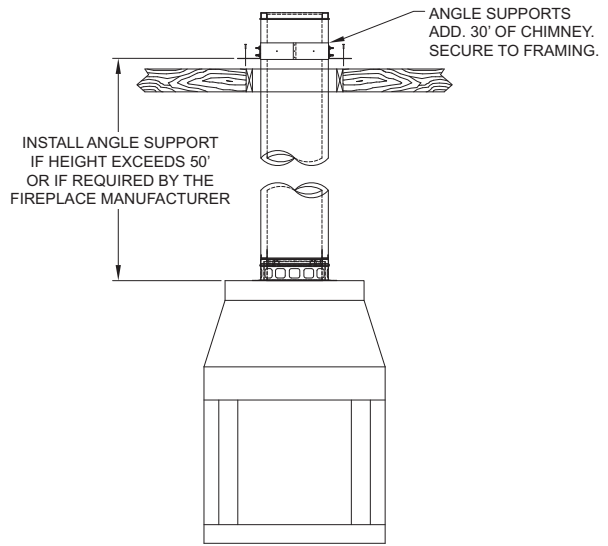
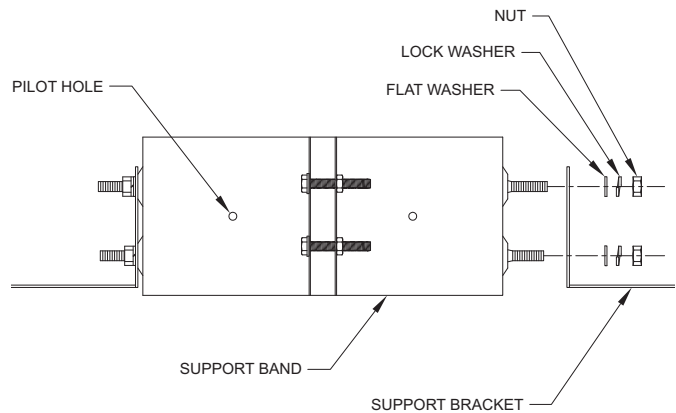

FIG. 5
FIG. 6
Angle Support and Support Band: Install an Angle Support if total chimney height is greater than 50 feet, or if the fireplace manufacturer requires it. If additional support is needed, install one or more Angle Supports which will support 30 feet of chimney. See FIG. 5. Slide the Angle Support around the chimney and align over framed opening. Secure to casing with (4) sheet metal screws and assemble brackets per FIG. 6.